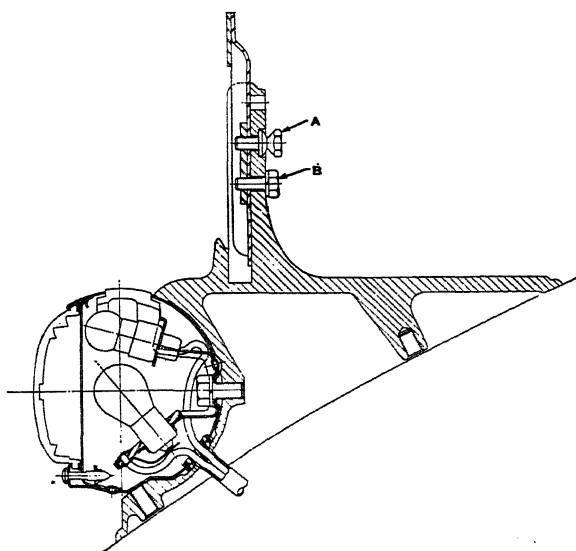

Fig. 19. Tail Light and License Bracket
**Tail and Stop Lamps.** Tail and stop lamps are ordinarily integral, as illustrated in Fig. 19, which shows a section of the Oldsmobile 1935 stop and tail lamp. There are two bulbs. The larger one is the stop bulb and is of 15 candle power, while the small bulb, utilized for tail lamp lighting, is of 2 candle power.